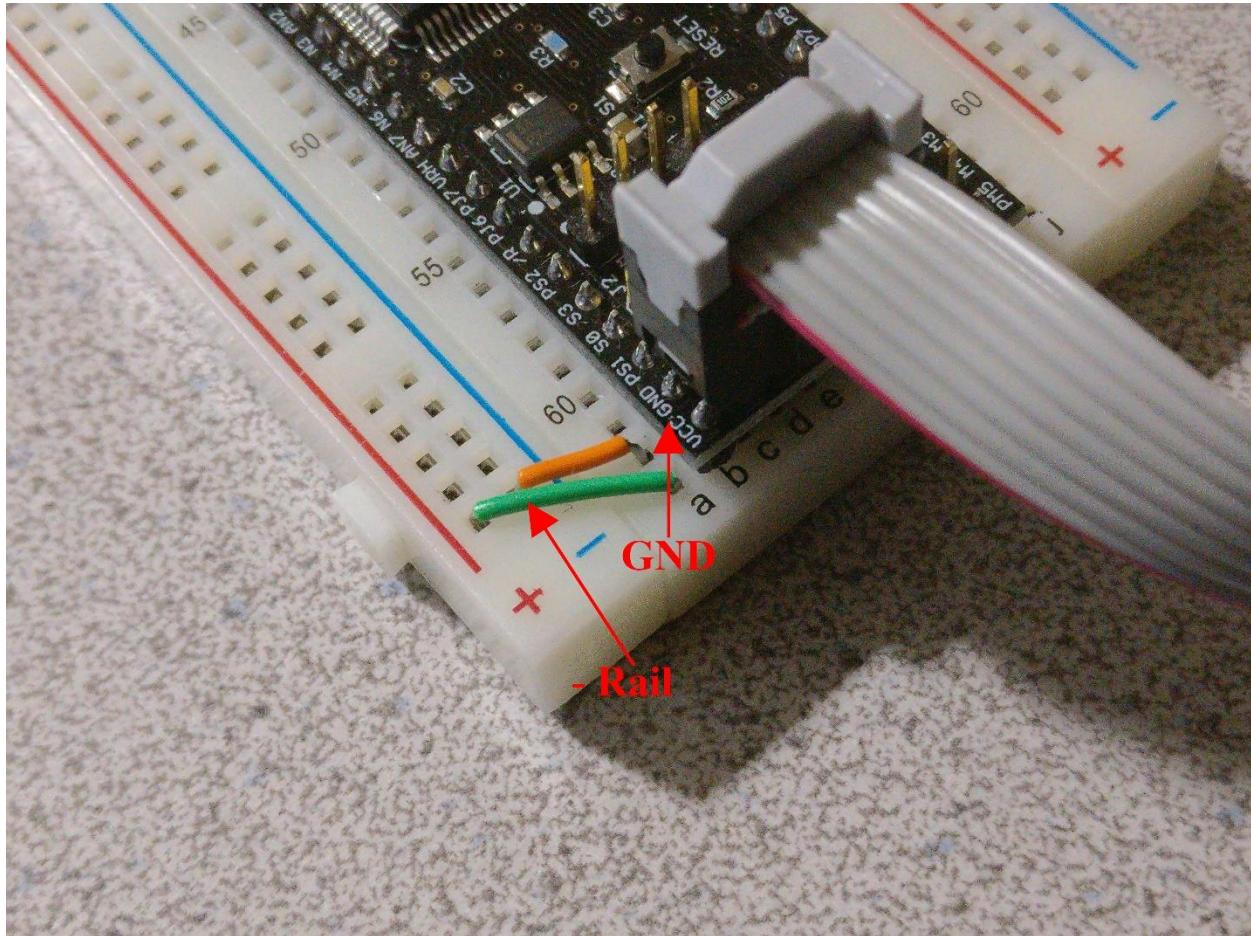

Figure 8-8 – Wire connecting GND to the negative rail on breadboard
- c. Plug the orange wire in such that one end is plugged into GND, which is to the right of VCC, and the other end in the first hole in the “-,” or negative, rail with the blue line next to it. Refer to Figure 8-8 for an example of what the wiring should look like.